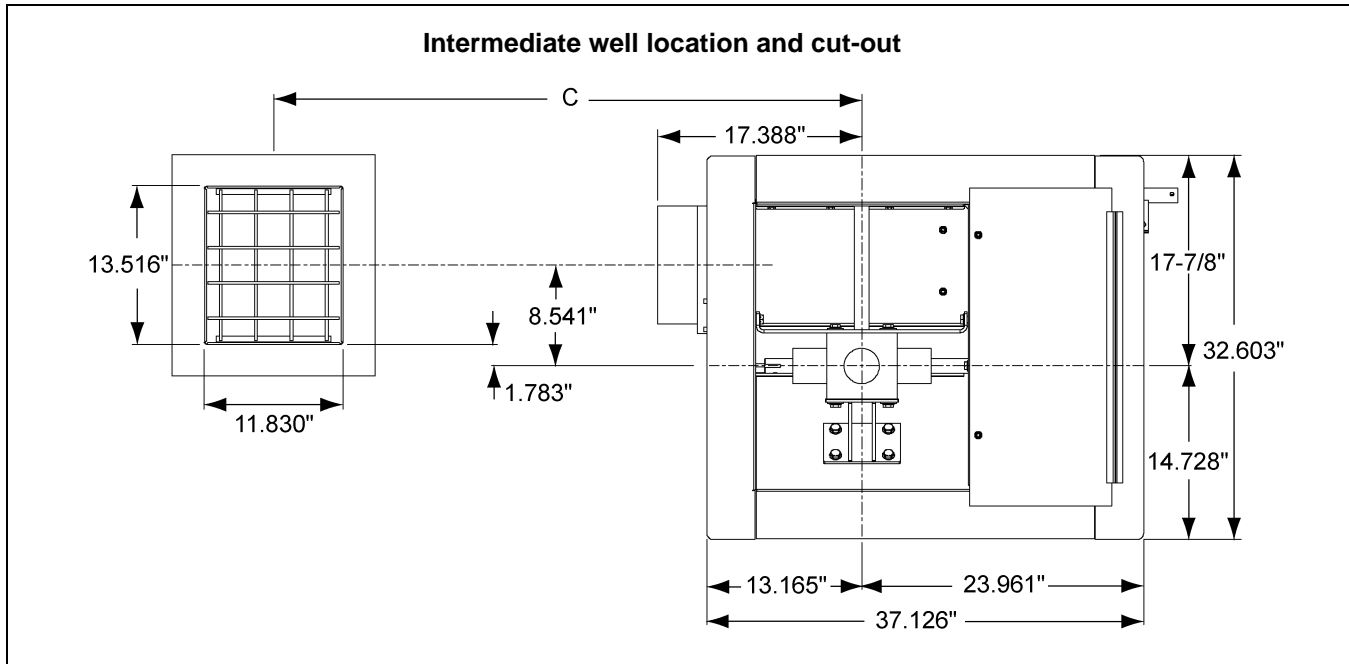

Figure 4C Intermediate Wells
1. Cut openings in the bin floor for the intermediate wells. (See Figure 4C.) The number of wells depends on bin size. The distance between intermediate wells and the centerwell should be equal.